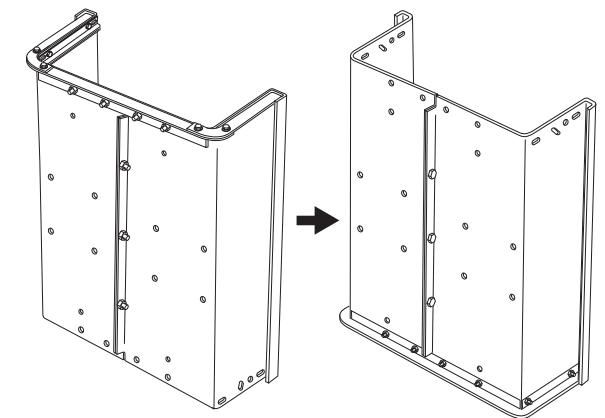

Figure 10
**STEP 10 (SEE FIGURE 10):** Position the cart bed with the rear towards the ground as shown in figure 10.